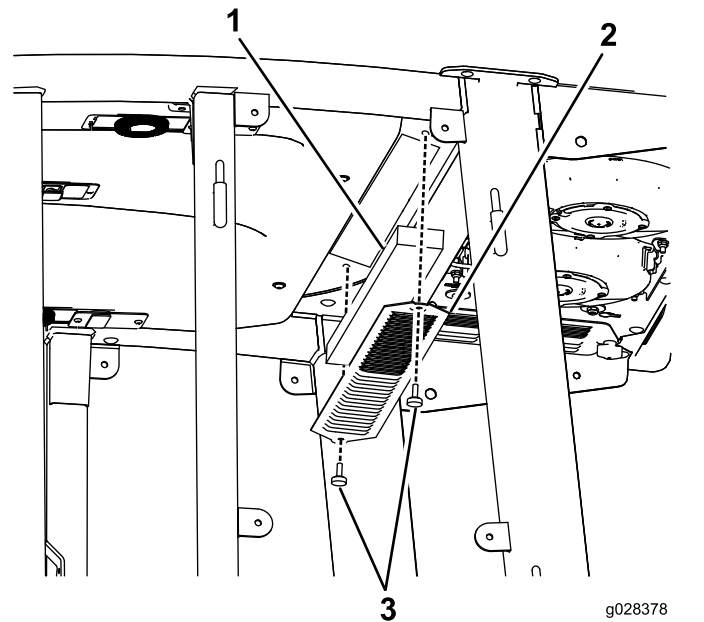
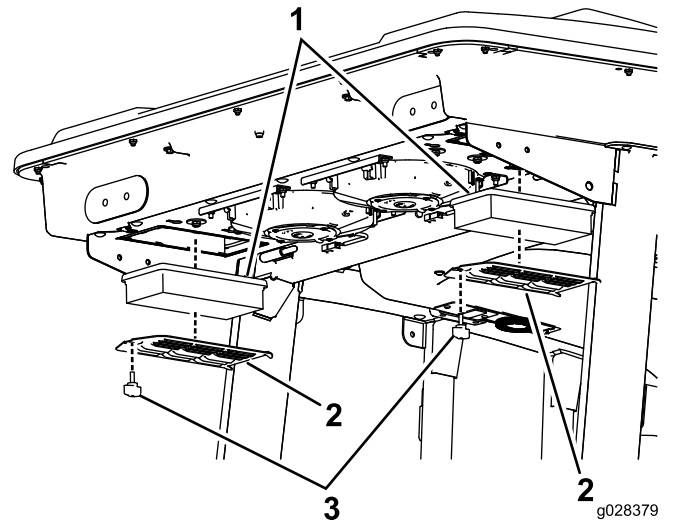

Figure 133
Figure 134
1. Remove the screws and grates from both the in-cab and rear cab air filters (Figure 133 and Figure 134).